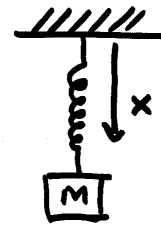

Figure 1. The geometry of the hanging spring. x is measured from the spring support. The no-force length of the spring is 1.
Consider a mass hanging from a spring, as shown in Figure 1. The overall energy of the system can be divided into two parts:
The function `springs` (Note the 's' at the end.) gives the potential energy for a chain of springs, with each spring constant, mass, and length set as in the single-spring case. As in Figure 1, the coordinates are the length of each link in the chain. So, for example, a chain with link lengths of 1 and 2 has potential energy
- 4 Make the contour plot and find the argmin, that is, the values of x_1 and x_2 at which the potential energy is minimized. Note that the optimal value of x_2 is smaller than the optimal value of x_1 . Does this make sense in terms of the physical situation depicted in Figure 1?